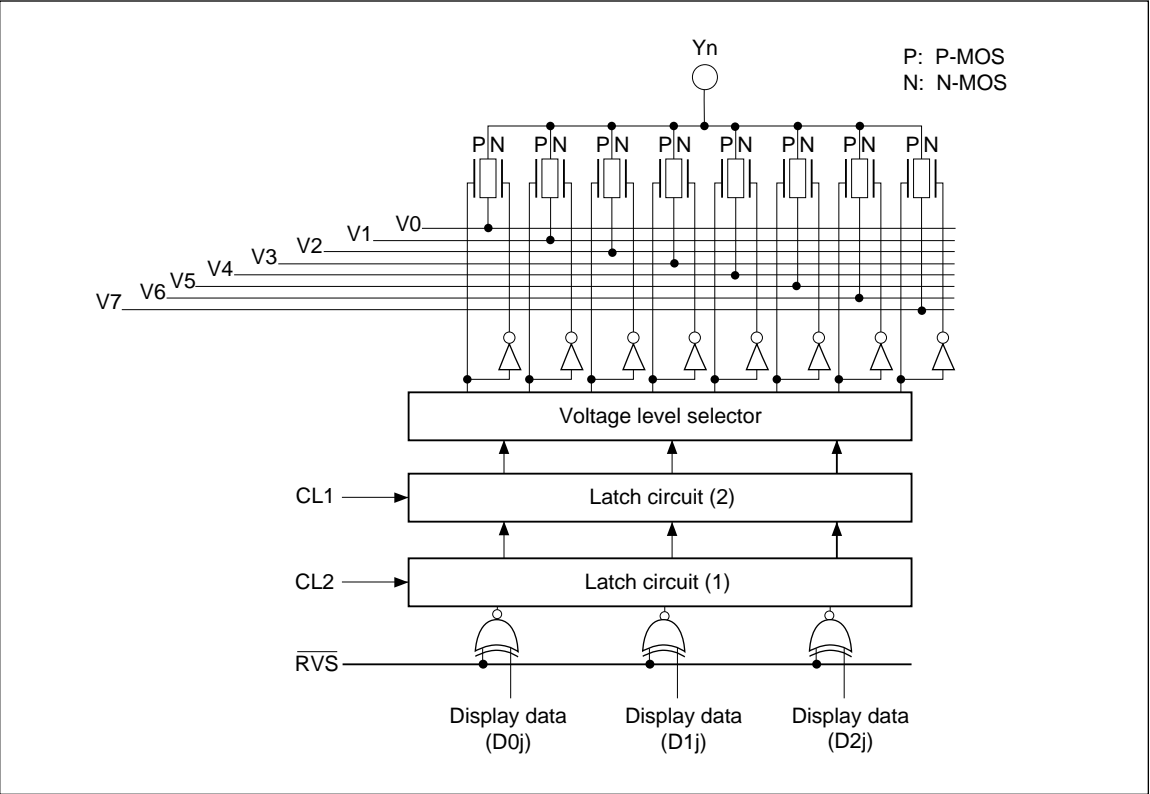

Figure 4 LCD Driving Circuit
The HD66310 internal circuit unit for one data output is shown in figure 4. The circuit receives 3-bit data (D0j, D1j, D2j) and selects one of eight voltage levels (V0–V7) to output to the LCD.
- As shown in figure 4, the data reverse circuit is before the latch circuit (1). The LCD driving output is reversed one CL1 period after a transition of the $\overline{\text{RVS}}$ signal, as shown in figure